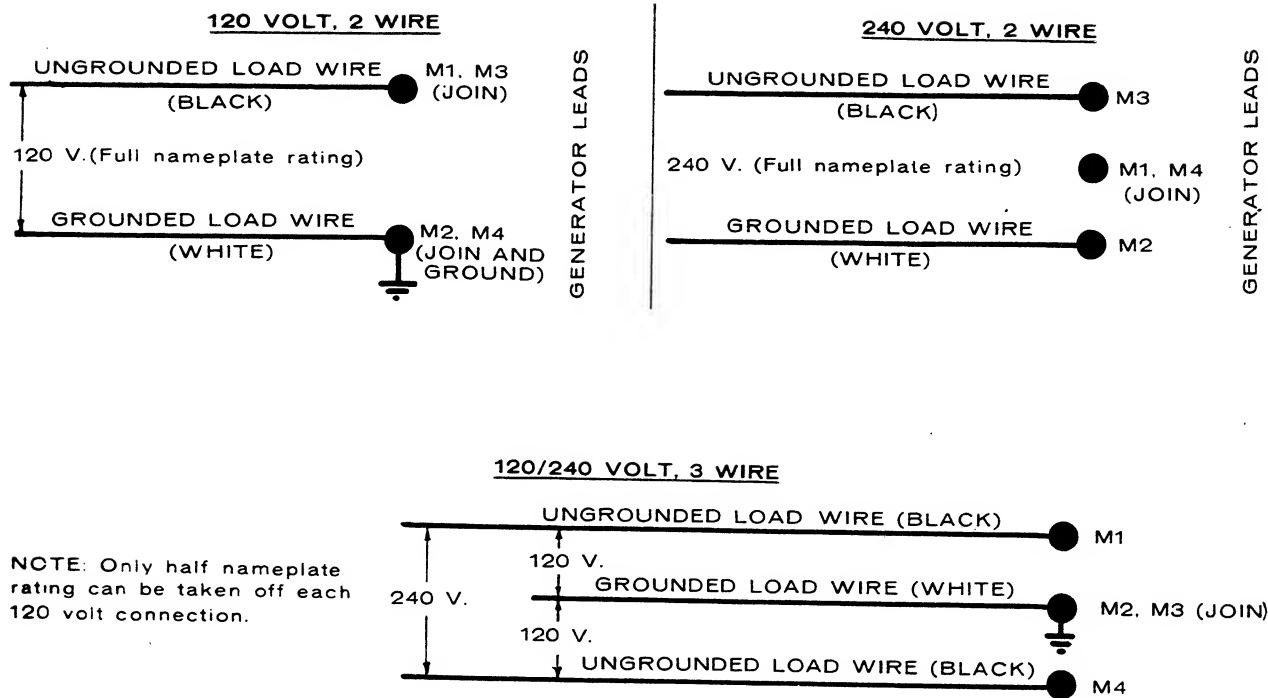

FIGURE 9. SINGLE PHASE, 3CR GENERATOR CONNECTIONS
**Reconnectable, Single-Phase Generator:** Voltage selection on reconnectable single-phase generators is 120/240 volts, 3 wire; 120 volts, 2 wire; or, 240 volts, 2 wire (Figure 9). Use the connection for two-wire service when one load exceeds one-half the rated capacity. Balance the load when connecting for three-wire service. Current for any one output lead must not exceed nameplate rating. Serious overloading can damage the generator windings. When two or more single-phase circuits are available, divide the load equally between them.